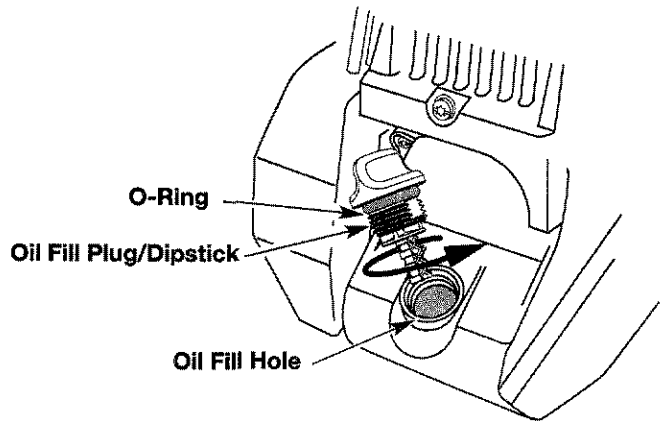

Fig. 41
6. If the level is low, add a small amount of oil to the oil fill hole and recheck (Fig. 41). Repeat until the oil level reaches the top of the dipstick.